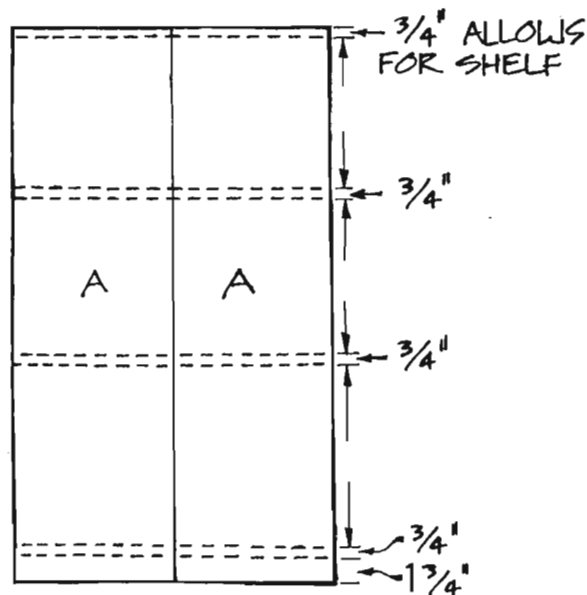

Figure 1
1. *Figure 1* shows the marking layout for placing the shelves. Set the two sides (A) next to each other, and simultaneously mark the position for all of the shelves completely across both sides.